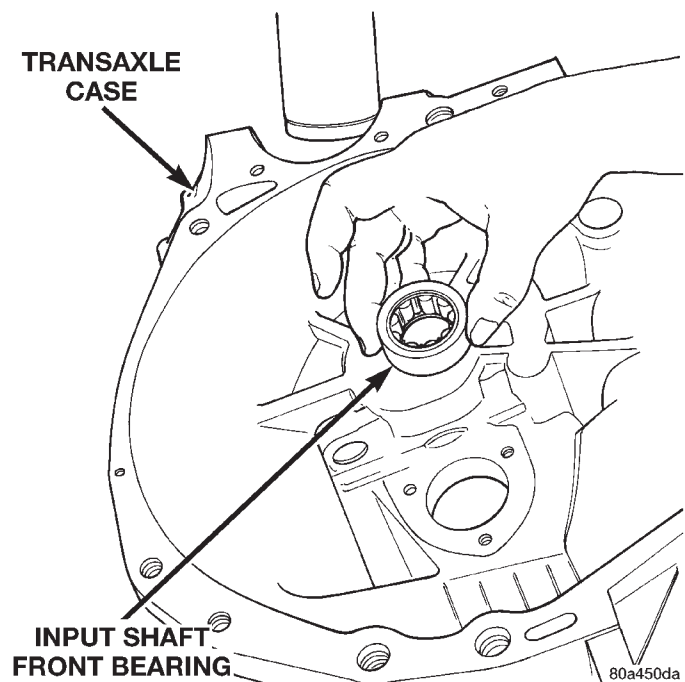

Fig. 203 Input Bearing
(1) Position new input bearing into the transaxle case (Fig. 203).